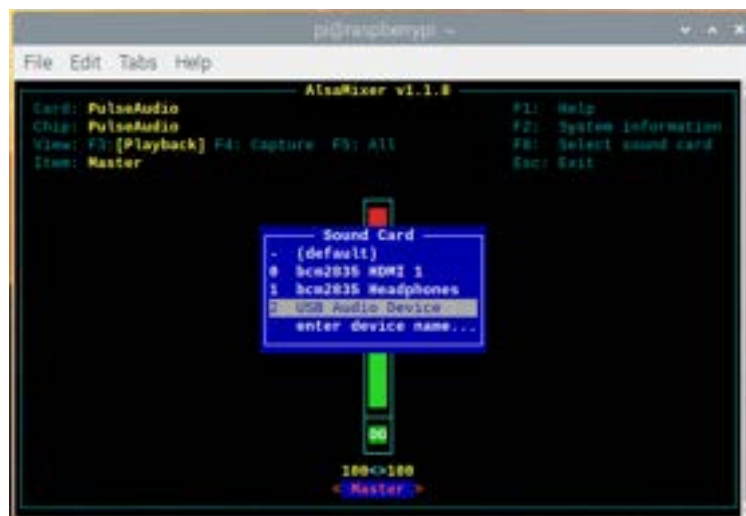

Figure 2: AlsaMixer
3. Press F6 to Select the Sound Card. Here, choose your output, and make sure the volume is full. As shown in Figure 2.